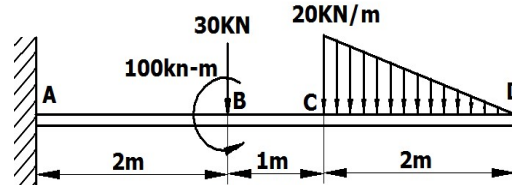

Figure 22
12. A cantilever beam is loaded as shown in *Figure 22*. Draw the shear force and bending moment diagrams, for the beam.